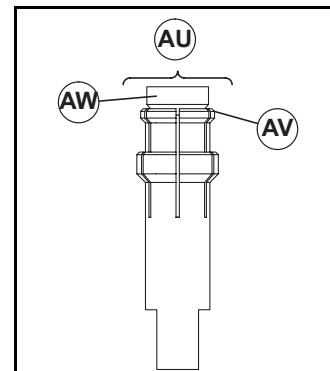
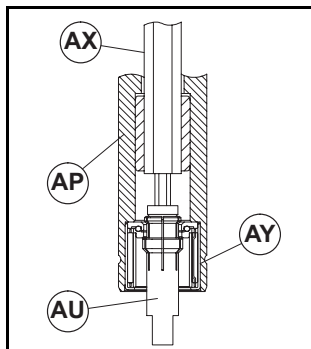

Figure 20
Figure 21
Bearings in pulleys on the 3" (70 mm) and wider conveyors can be removed with Dorner Bearing Removal Tool (Figure 20, item AU), part number §25-05.
To ensure bearing removal tool (Figure 20, item AU) will fit into bearing, make sure that the flair (AV) on bearing removal tool is completely closed.
1. Using hex key wrench extension tool (Figure 21, item AX), either part number §25-08 or ¢25-08A, loosen tapered screw (Figure 20, item AW) on bearing removal tool (AU) to compress flair (AV) until flair is completely closed.
2. Insert bearing removal tool (Figure 21, item AU) into pulley (AP) through bearing (AY).